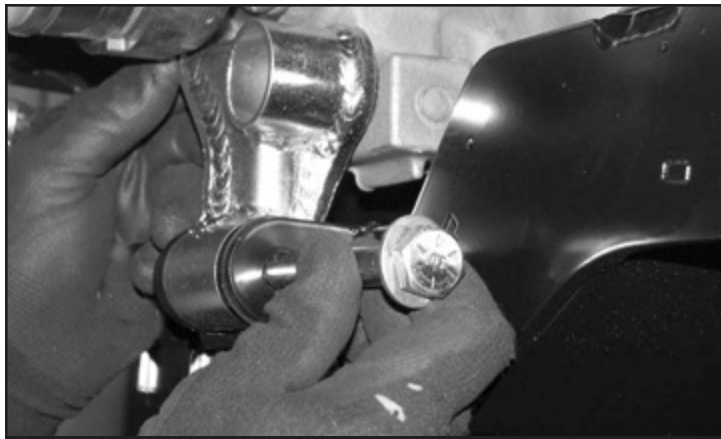

FIGURE 33 - STEP 30
30. Install the rear diff bracket into the tabs on the rear crossmember using a ½-13 x 4" bolt, washers, and nut. **SEE FIGURE 33**